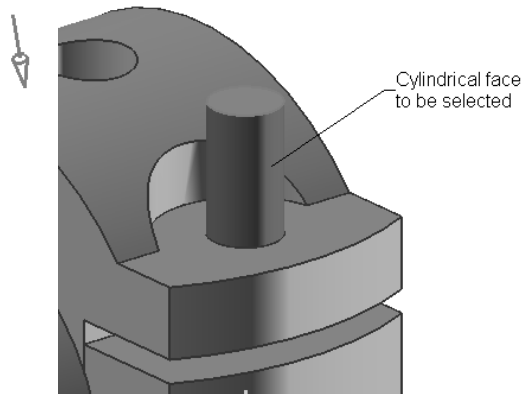

**Figure 8-95** The assembly after assembling the Bolts
12. Similarly, assemble the second instance of the Bolt on the other side. The same three assembly constraints should be applied. The assembly, after assembling the bolts, is shown in Figure 8-95.